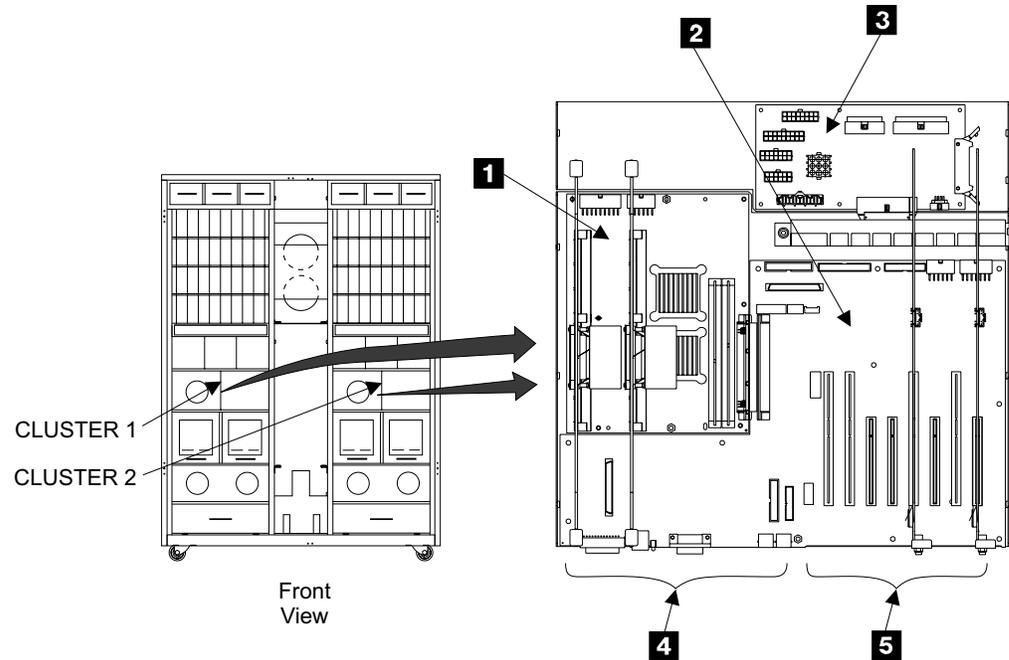

Figure 133. Cluster Bay Planar Locations (S008778n)
11. Remove all of the cards from the system planar **1** and the I/O planar **2** in Figure 133 on page 125:
12. Disconnect all of the internal cables from the system planar **1** and the I/O planar **2** in Figure 133 on page 125. See "Cluster Bay, System, I/O, and Power Planars Location Codes (F10/F20)" and "Cluster Bay, Cable Location Codes (F10/F20)" in chapter 7 of the *Enterprise Storage Server Service Guide, Volume 3* for cable locations.
18. Remove all of the cards from the system planar **1**, in Figure 133 on page 125.
19. Disconnect all of the internal cables from the cluster bay power planar, **3** in Figure 133 on page 125. See “Cluster Bay, System, I/O, and Power Planars